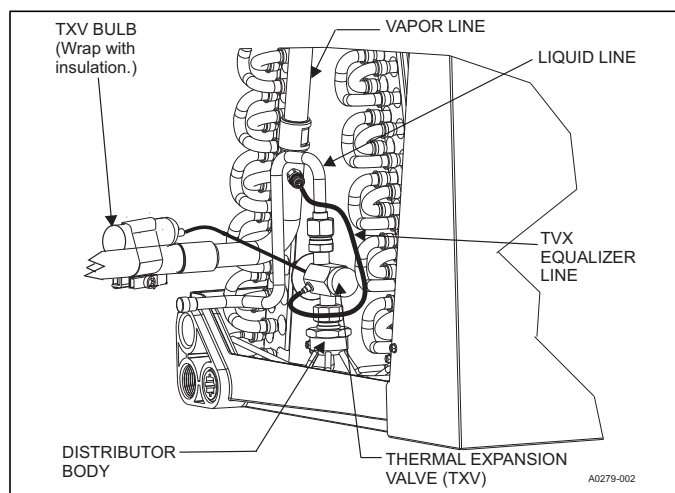

FIGURE 7: TXV Bulb Installation
7. Install the TXV equalizer line onto the vapor line by hand tightening the 1/4" SAE coupling nut to the equalizer fitting, and apply an additional 1/3 turn to seal. See Figure 7.
9. Install the TXV bulb to the vapor line near the cabinet, using the bulb clamp(s) furnished with the TXV assembly. Ensure the bulb is making maximum contact. See Figures 7 and 8, and accomplish the following: